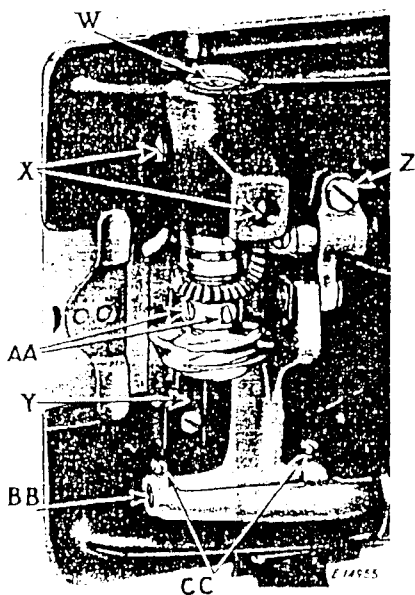

Fig. 21
The point of the hook should come as close as possible to the needle without touching it. Loosen the four screws (X and AA, Fig. 21) and slide the hook to the correct position, then tighten the two screws (X). Reset the gear on the hook shaft and tighten screws (AA).
Remove the bobbin case stop (Y, Fig. 21), loosen the hook spindle screw (W) a few turns and tap it lightly to loosen the hook. Then remove the screw (W) and withdraw the hook from its socket.
Remove the throat plate; clean the lint and dirt from between the feed points and replace the throat plate; tip the machine back and turn the balance wheel toward you until the feed dog is at its highest position; loosen screw (Z, Fig. 21) and raise or lower the feed dog as required, then tighten the screw (Z).
Loosen the two screws (CC, Fig. 21) and turn the eccentric stud (BB, Fig. 21) to level the feed dog, then tighten the screws (CC).